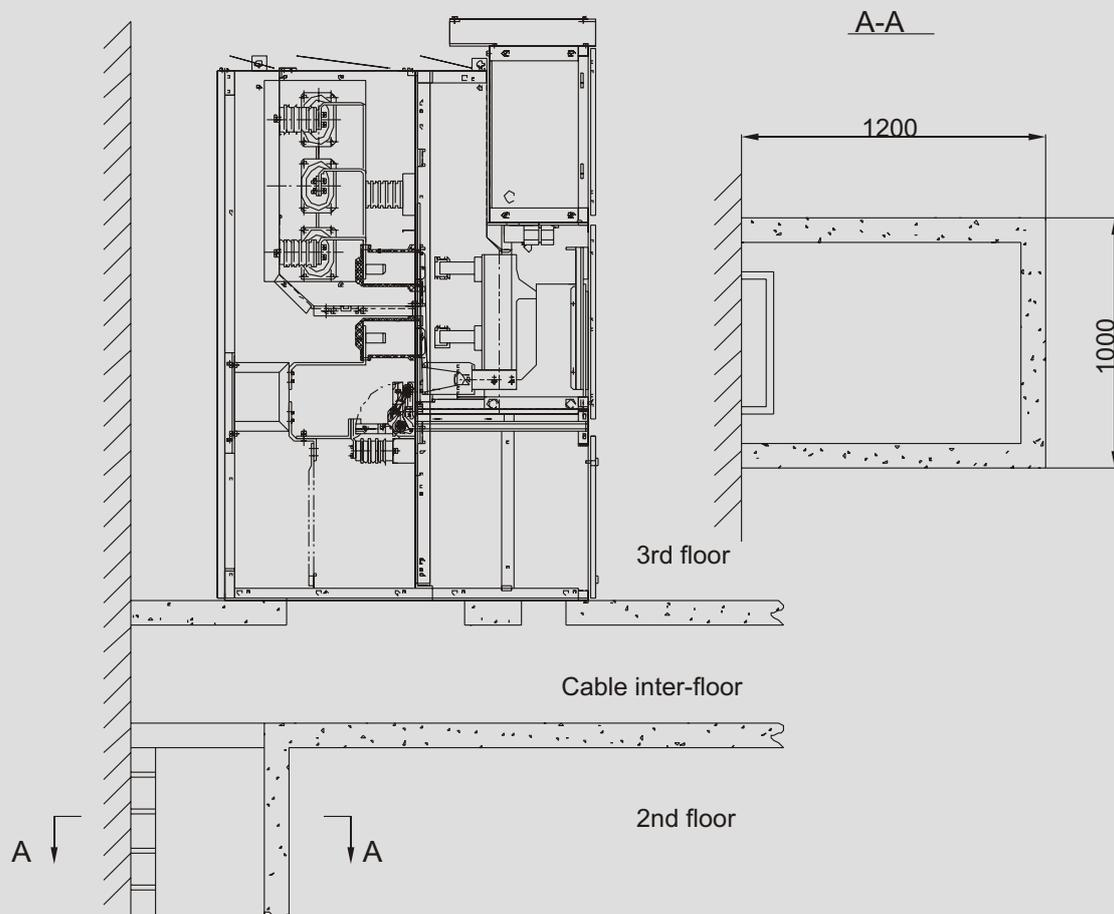

Fig.4 Sketch of Upstair Installation
6.4 Upstair layers with cables as per Fig.4.